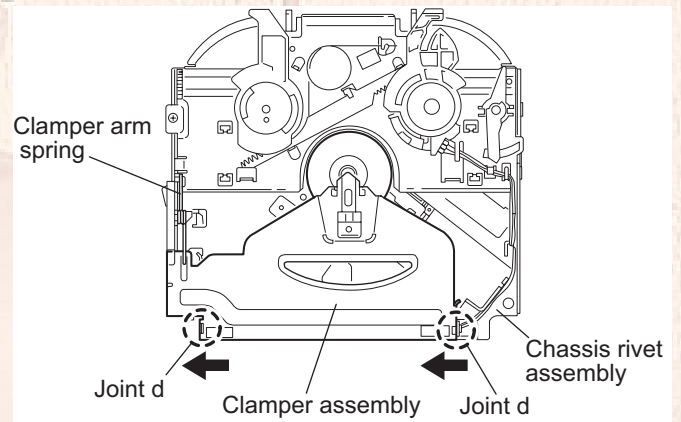

Fig.10
3.2.5 Removing the clamber assembly (See Figs.10 and 11)